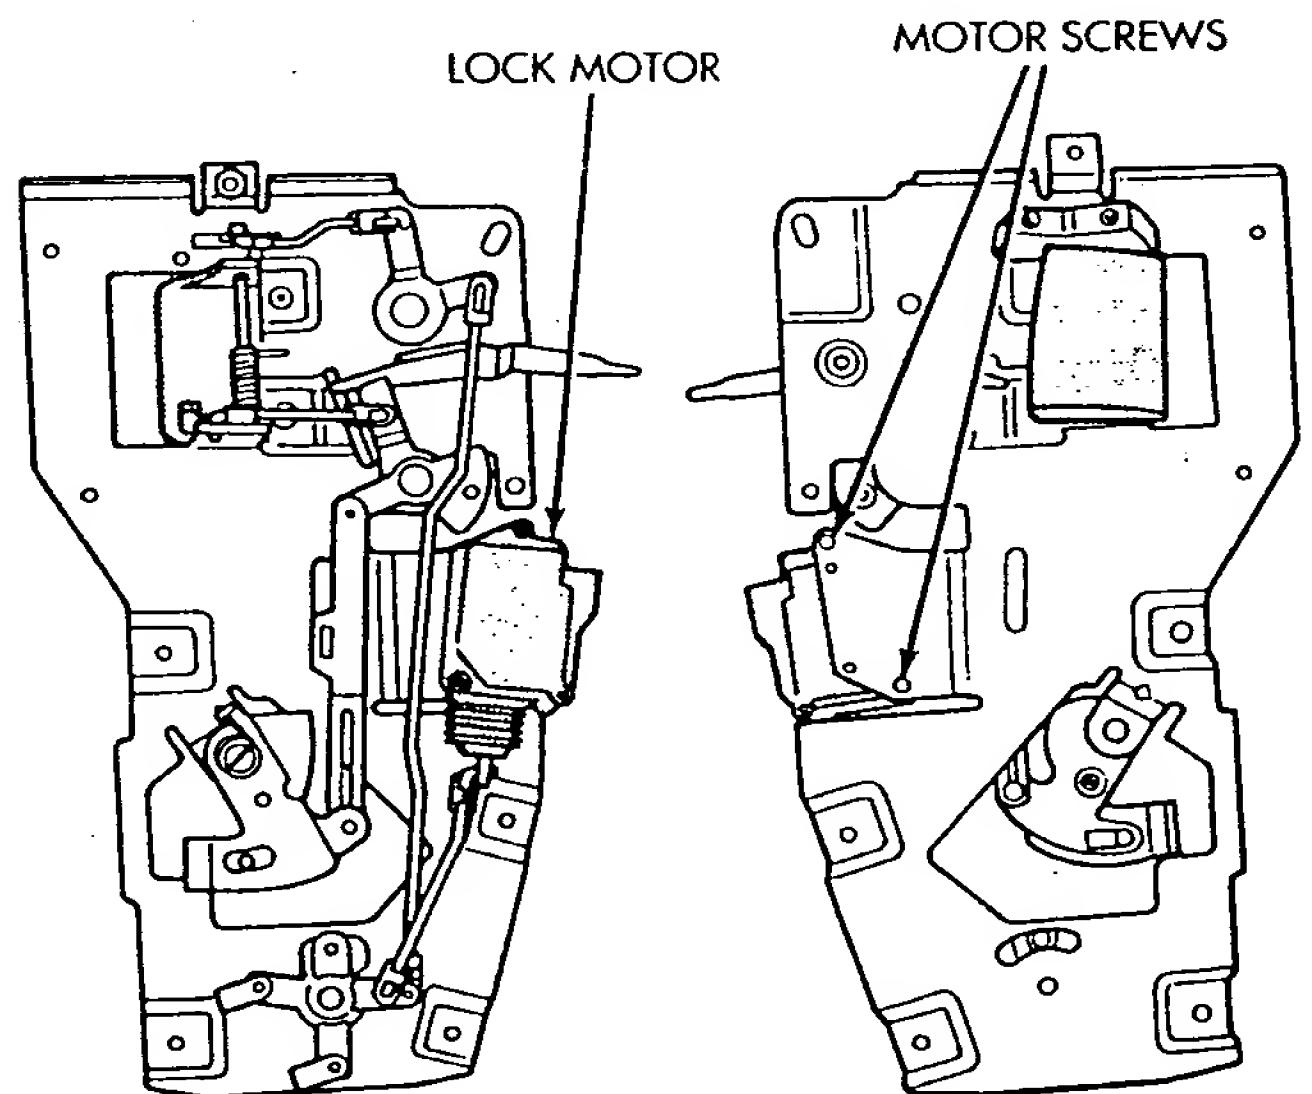

Fig. 6 Latch Control Assembly
- (2) Remove plastic button, in upper right corner of door trim panel. Remove screw behind button and a second screw down towards the right middle of panel.
- (3) Remove three plastic retainers along bottom edge of panel.
- (4) Using a trim stick, start at top left side of panel and disengage trim clips.
- (5) Remove complete door trim panel.
- (6) Remove latch control assembly mounting bolts (Fig. 6).